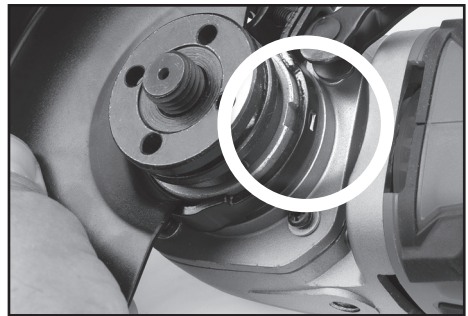

FIG.3
#### B, C, D (FIG.3):
Press and hold the spindle lock button (2). Loosen the locking flange (3) anti-clockwise using the pin spanner (8) supplied. The spindle may rotate slightly before the spindle lock fully engages. Remove the locking flange only. Clean the flanges and spindle prior to fitting any accessory. If the rear flange is removed for cleaning, ensure it locates correctly on the spindle flats when refitting and does not spin freely. When fitting the appropriate accessory please refer to (Fig.3) for specific details on the locking flange correct orientation as applicable.